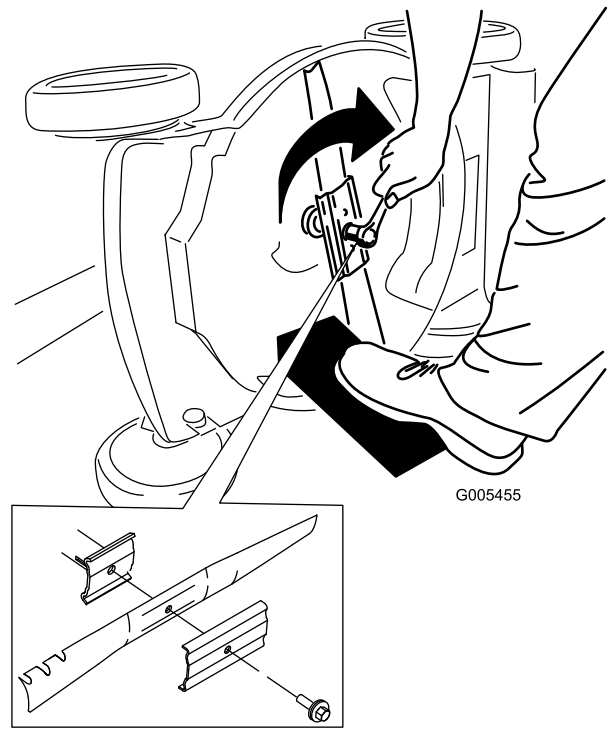

Figure 19
5. Install the new blade and all mounting hardware (Figure 19).